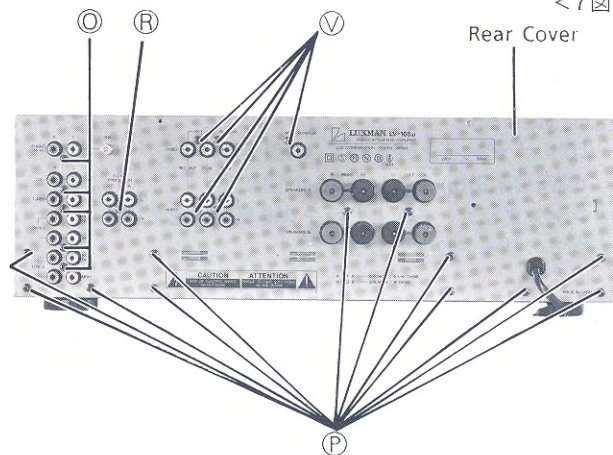

Figure 8
- (1) Remove six screws marked "Ⓞ" as shown in Figures 8 and 9.
- (1) Remove twelve screws marked "Ⓟ" as shown in Figure 8.
- (2) Disconnect all wires from the AC Outlet, AV Monitor and ADP P. C. Board.
- (3) The rear cover with AV Monitor and ADP P. C. Board can be removed Completely.
- (1) Remove five screws marked "Ⓥ" as shown in Figure 8.
- (1) Remove one screw marked "Ⓡ" as shown in Figure 8.